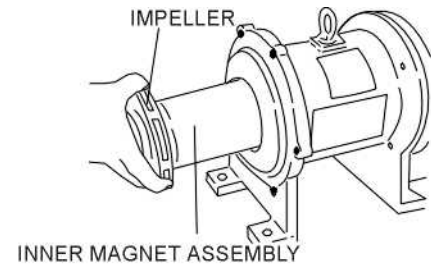

Figure 14
- Remove impeller (3) and inner magnet assembly (6) from the containment shell (2) by drawing it forward. Be careful not to scratch the surface of each part. Since the inner magnet assembly is strongly magnetized, store it in a place free of metal pieces. Handle the front casing liner(1), inner magnet assembly and impeller with extra care so as not to scratch the bushing and sealing surfaces. [Fig. 14]